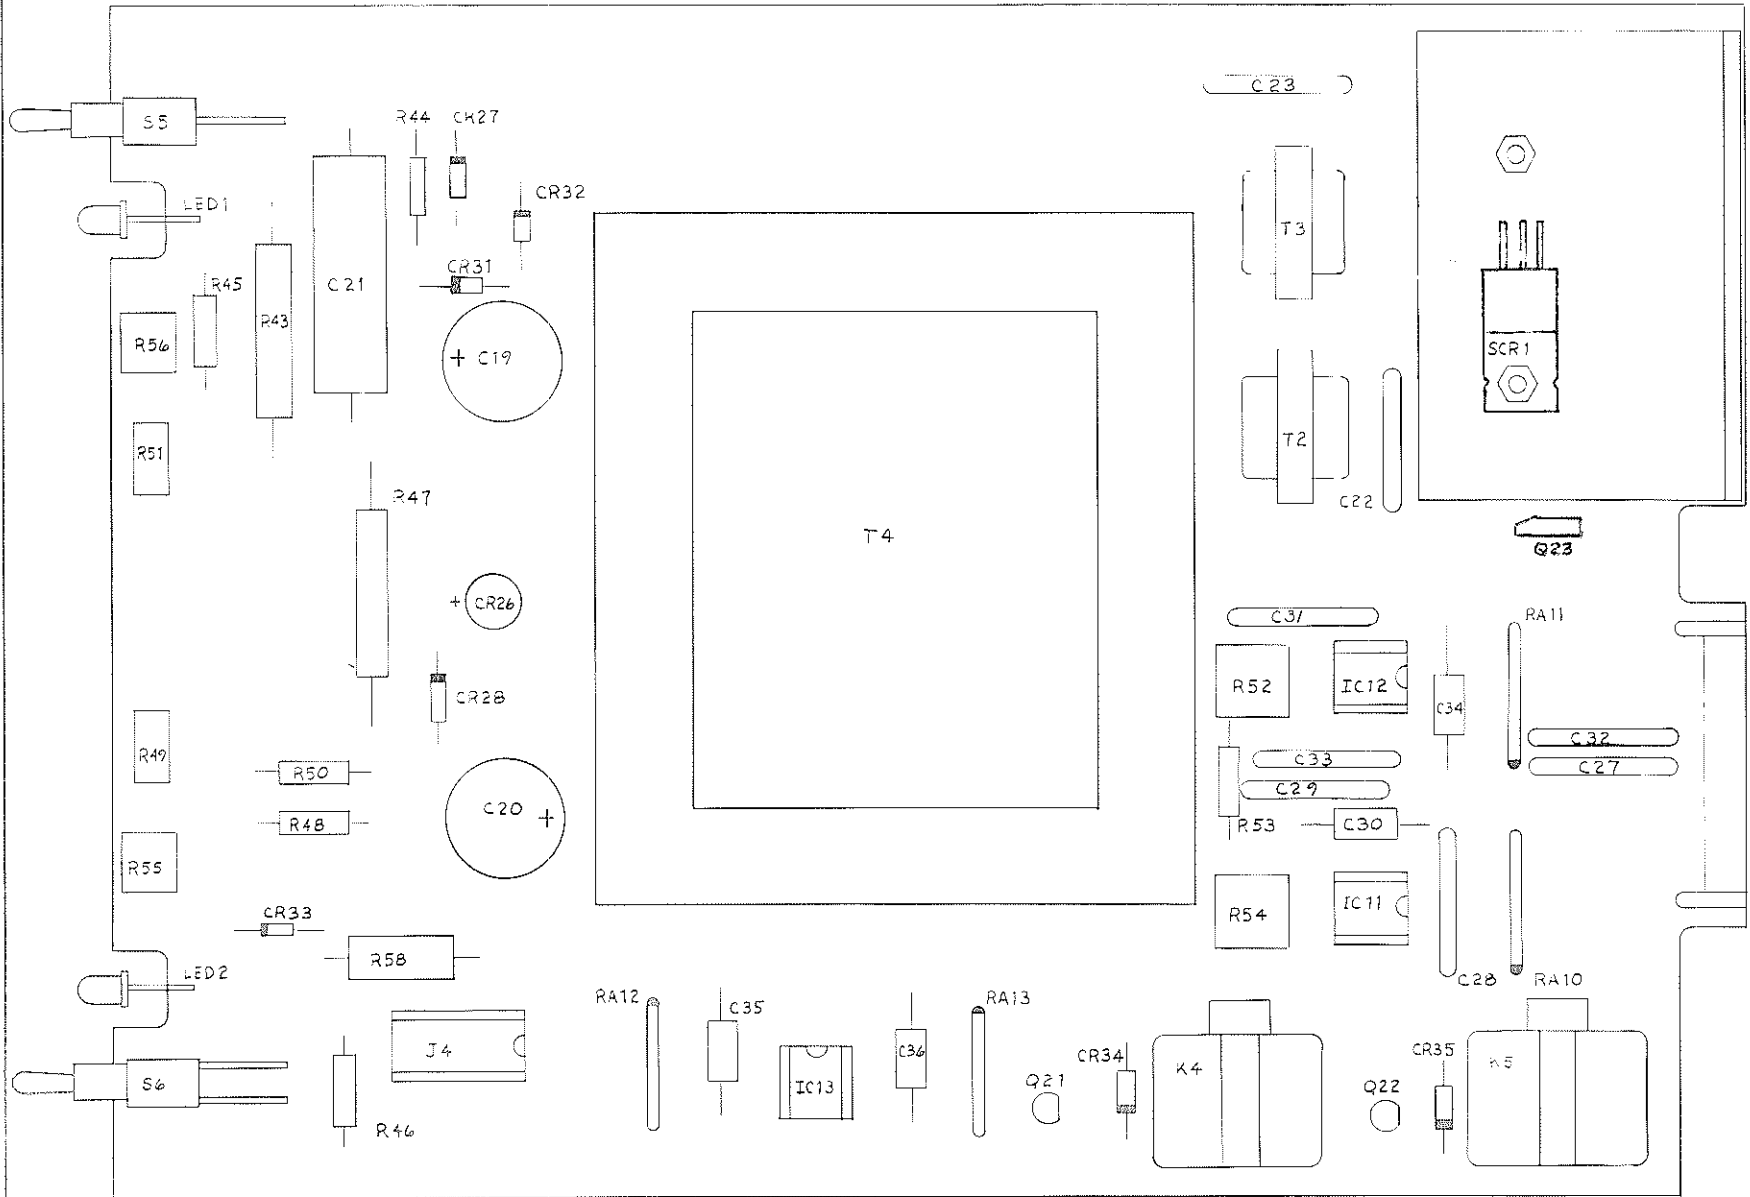

FIG.6-2 COMPONENT LOCATION POWER BOARD
### 6.4 Power Supply Problems (Refer to Fig. 5-3 and Fig. 6-2)
6.9 Thermocouple Circuit (Refer to Fig. 5-8 and Fig. 6-2)
#### 6.10 Thermocouple Process Control (Refer to Fig. 5-9 and Fig. 6-2)